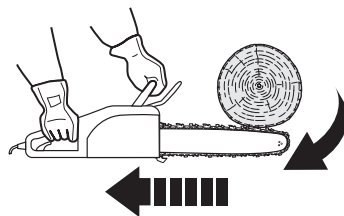

Fig. 27
2. Pinching the saw chain (8) along the top of the guide bar (9) may push the guide bar rapidly back toward the operator (Fig. 27).